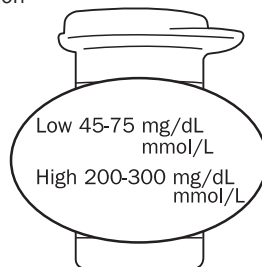

Figure 6
After Seven (7) seconds, the control solution test result appears on the display. Compare the test result with the range printed on the test strip vial. Each vial of Prodigy® No Coding Test Strips may have a different control solution range. The result should fall within the printed range on the test strip vial. See Figure 6.